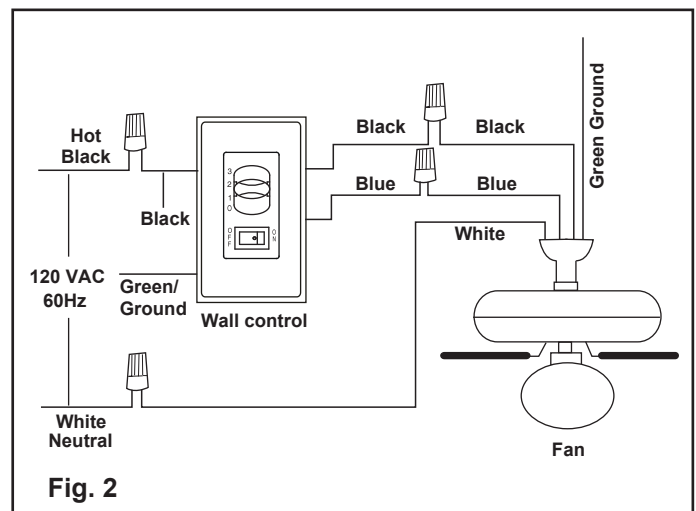

Fig. 2
- Make wire connections (Figure 2) and secure with wire nuts supplied.
2. Make wire connections (Figure 2) and secure with wire nuts supplied.